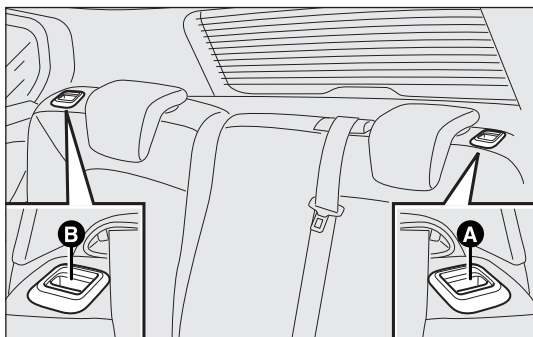

fig. 101
- lift handle A or B-fig. 101 to release either the left or right part of the backrest and guide the backrest down onto the cushion.
- lift handles A and B-fig. 101 to release the backrests and guide them down onto the cushion.